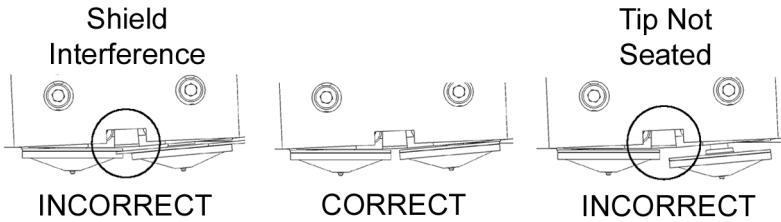

Figure 24: Installation Examples
- G. Verify the tip is fully inserted into the heater block and that the stainless steel shield is aligned (See Figure 24 on page 56).